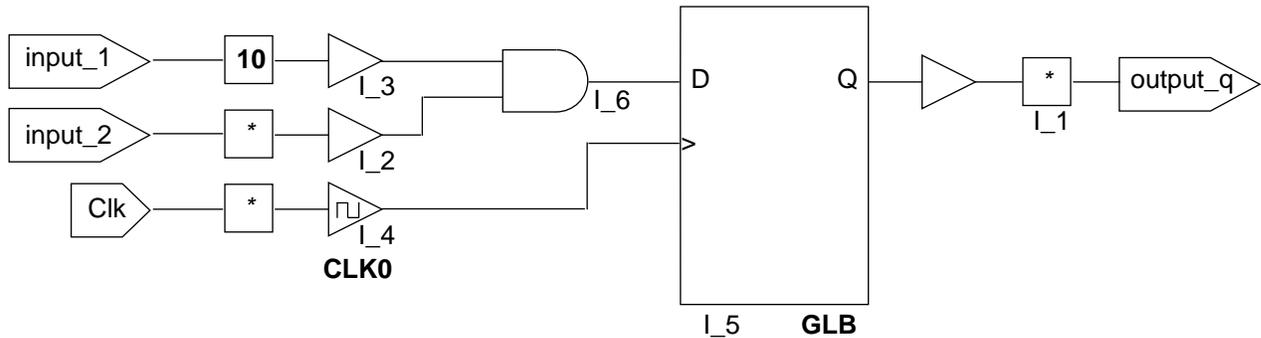

Figure 4-1. andff.sch Schematic Design Example
The following design example demonstrates the steps used to take a schematic design created in Synario from design entry through device programming. The schematic shown in Figure 4-1 is the source for the example.
- b. Select **Add** ⇒ **Symbol Attribute** and the Symbol Attribute Editor window appears. Select the I_5 symbol (which is a flip-flop) and the available attributes appear in the window. Click on **Register Type** and type **GLB** in the field box, then click **Close**. (The attribute will not appear on the schematic. It is added to the schematic design in Figure 4-1 for reference purposes only.)
- c. Select **Add** ⇒ **Symbol Attribute** and the Symbol Attribute Editor window appears. Select the I_4 symbol (which is a clock) and the available attributes appear in the window. Click on **Clock_type** and type **CLK0** in the field box, then click **Close**. (The attribute will not appear on the schematic. It is added to the schematic design in Figure 4-1 for reference purposes only.)
- d. Select **Add** ⇒ **Symbol Attribute** and the Symbol Attribute Editor window appears. Select the I_3 symbol (which is a pin) and the available attributes appear in the window. Click on **SynarioPin** and type **10** in the field box, then click **Close**. (The pin attribute, in this case, will appear as shown on the schematic in Figure 4-1.)